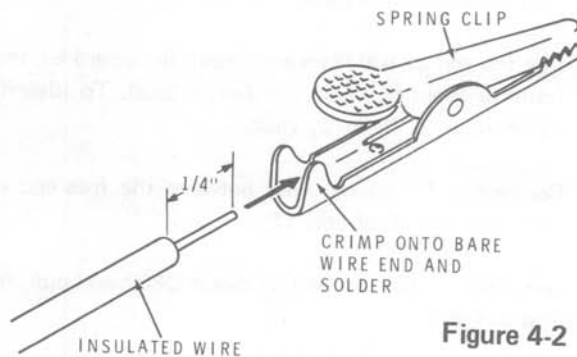

Figure 4-2
- () Refer to Figure 4-2 and connect an alligator clip on the free end of the orange wire.